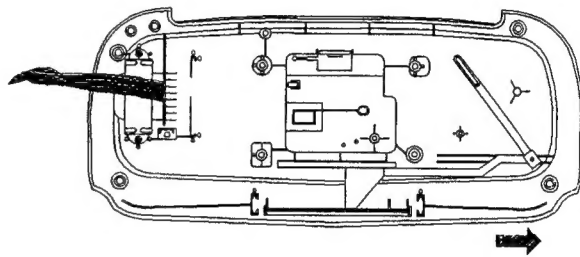

Fig. 1
1. Move the dial pointer to max. position in the direction of arrow (Fig. 1).